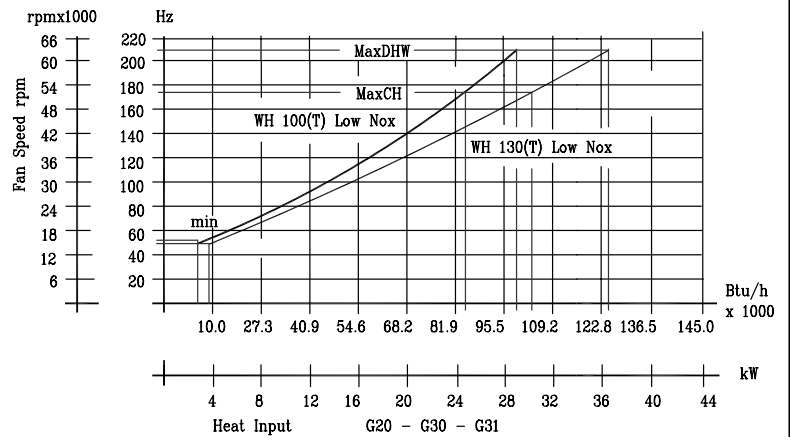

Fig. 37
6.14.1 When the boiler operates in the C.H. mode, the fan speed, can be set between the min. and max. values. (See fig. 37). This permits capacity to be adjusted to suit system demand, if adjustment is required proceed as follows:
- When viewing fan speed slightly move the potentiometer to display the speed and adjust only if necessary (fig. 37) the fan speed will flash the first two digits on the display in the control panel in rpm (eg. 42 = 4200 rpm).